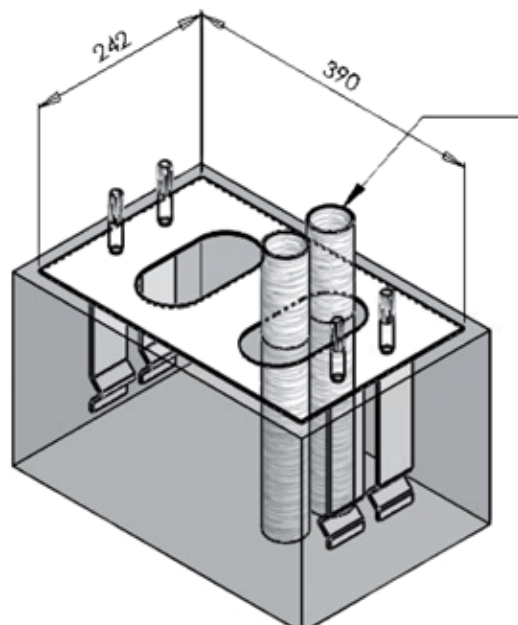

fig.4
- Follow the dimensions, create a solid concrete footing and fix the base plate to the ground immersing it into the concrete using the bracket clamps and fixing screws (fig.4). If the base already exists use robust expanding wedges.